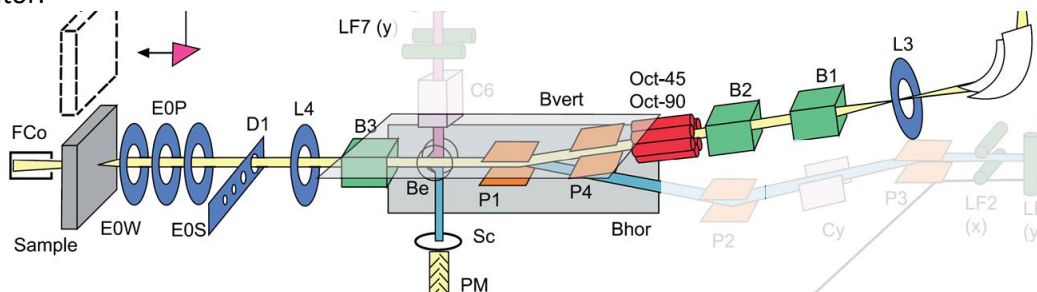

Figure 327: secondary electron detector option
When using positive primary ions ( $\text{Cs}^+$  or  $\text{O}_2^+$ ) **and without NEG** e-gun (which is emitting a strong light that would saturate the photomultiplier), it is possible to record images in Secondary Electron (SE) induced by primary ions. Extracted together with the *negative* secondary ions, they are deflected by a magnetic field toward an electron detector, an ensemble made of a scintillator (Sc) and a photomultiplier (PM), located on the side of the central column (Figure 327). The same Be coil used for deflecting primary electrons from the NEG toward the sample is used here to deflect the collected secondary electrons toward the SE detector. The secondary electrons emitted with a few eV initial energy from the sample at EOW potential will hit the scintillator, positioned under vacuum and polarized at ground level with an energy of  $\sim \text{EOW}$  eV, generating light. This light is detected through a viewport and amplified with a photomultiplier positioned at air side made of a photocathode converting light into electrons and subsequent electron dynodes for signal amplification. The signal is detected, like for other electron multipliers, counting the pulses above a discriminator.